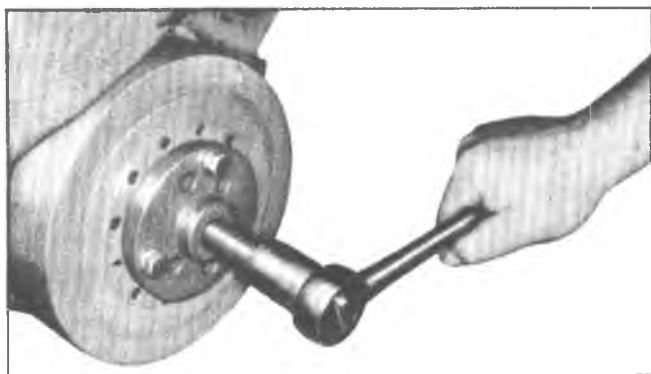

Fig. 14V—Removing Torsional Damper
4. Install Tool J-23523 on damper then, turning puller screw, remove damper (fig. 14V).